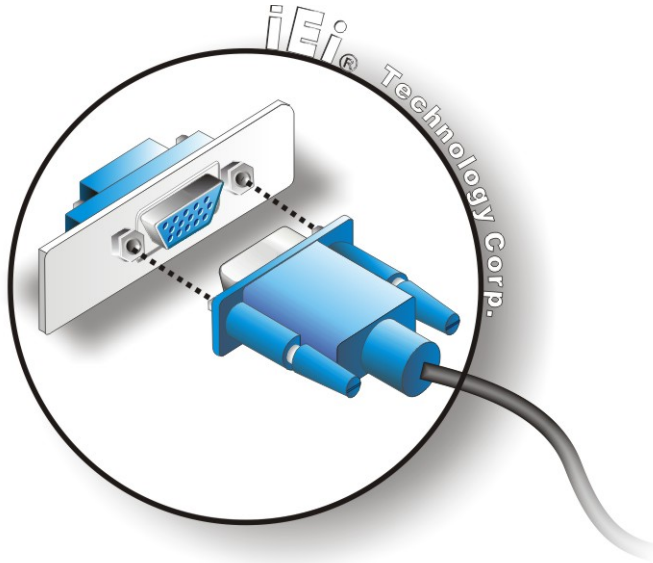

Figure 3-28: VGA Connector
Step 3: Insert the VGA connector Once the connectors are properly aligned with the insert the male connector from the VGA screen into the female connector on the AFL-HM55 Series. See Figure 3-28.